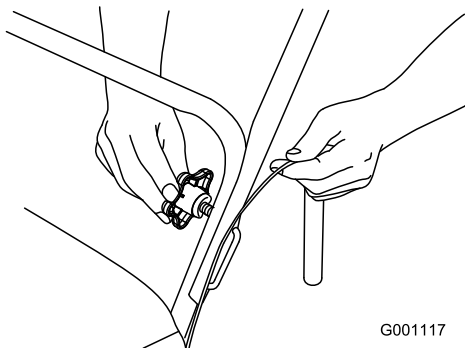

Figure 8
- Fully insert the handle bolts (Figure 8).
Important: Ensure that you do not pinch the control cable (Figure 8).